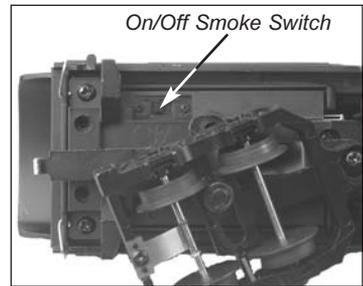

Figure 5 - Smoke Switch
- 2.** If you choose not to prime the unit with fluid, turn the smoke unit switch located under the tender to the OFF position. (See Fig. 5 on page 11) Running the engine without a primed smoke unit may cause damage. See the “ProtoSmoke Unit Operation” section of this book for more information on smoke unit maintenance.
■ If you choose not to add the fluid (or have already added the fluid but choose to run smoke free), turn off the smoke unit switch located under the tender body. (see figure 5) Failure to either add fluid to the unit or to turn it off may damage the smoke unit heating element and/or wicking material.